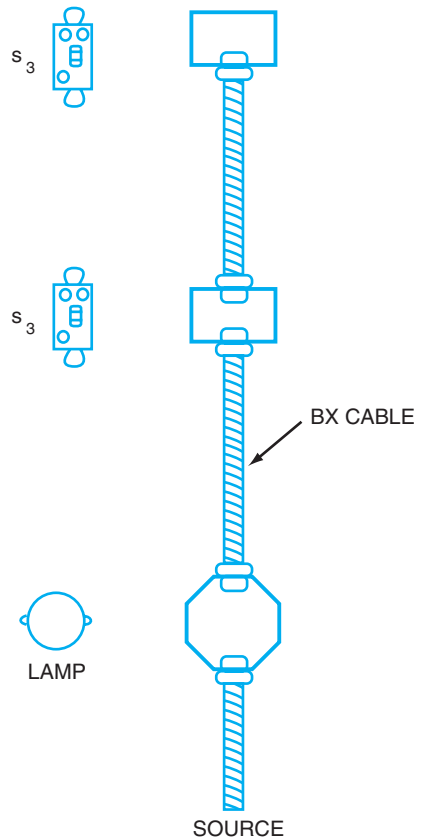

Figure 20-3 Installation.
23. Show the connections for a ceiling outlet that is to be controlled from either of two switch locations in Figure 20-3. The 120-volt feed is at the light. Be sure to color code all wires.